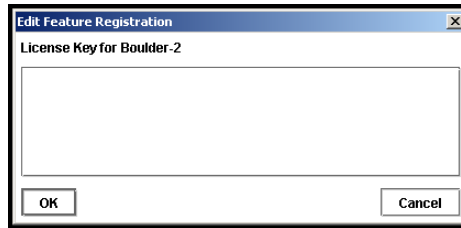

Figure 199. Entering License Key
4. Select an SSM and click Edit License Key. The Edit Feature Registration window opens, shown in Figure 199.